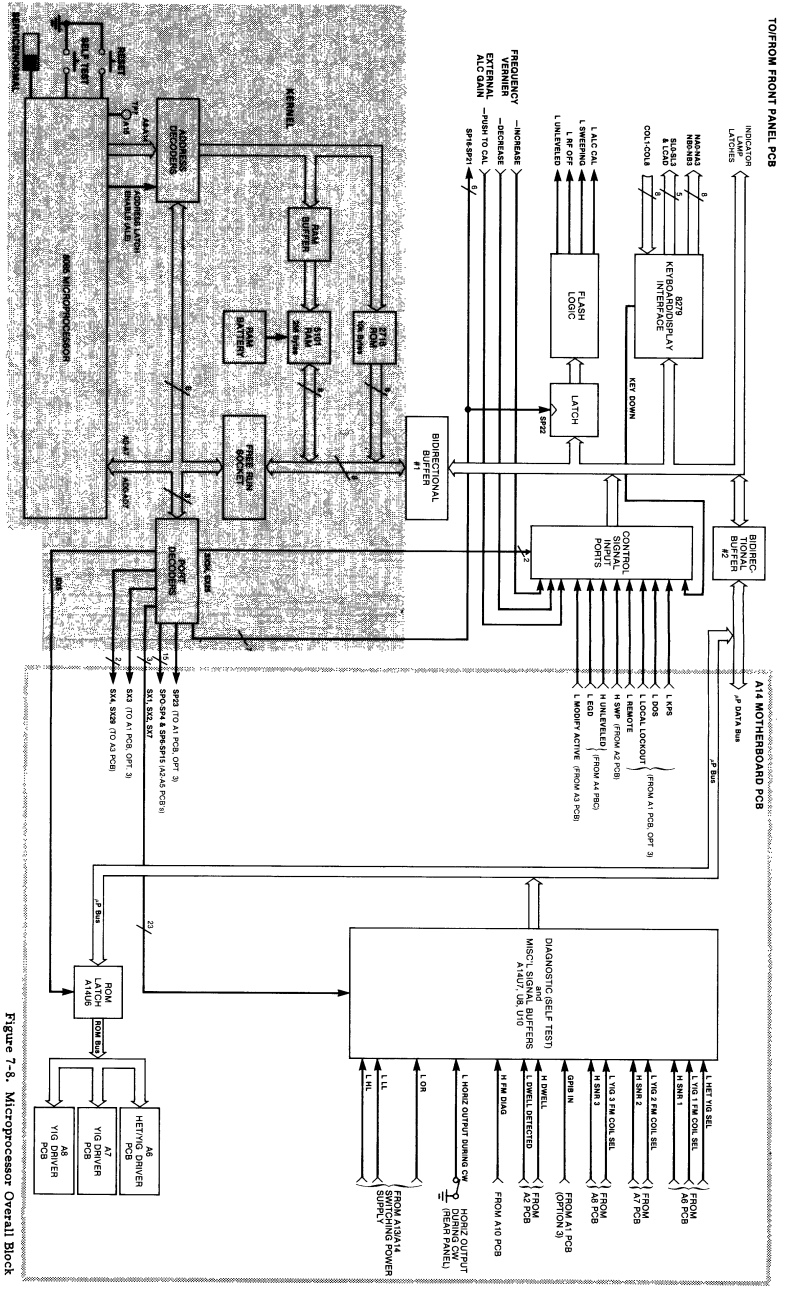
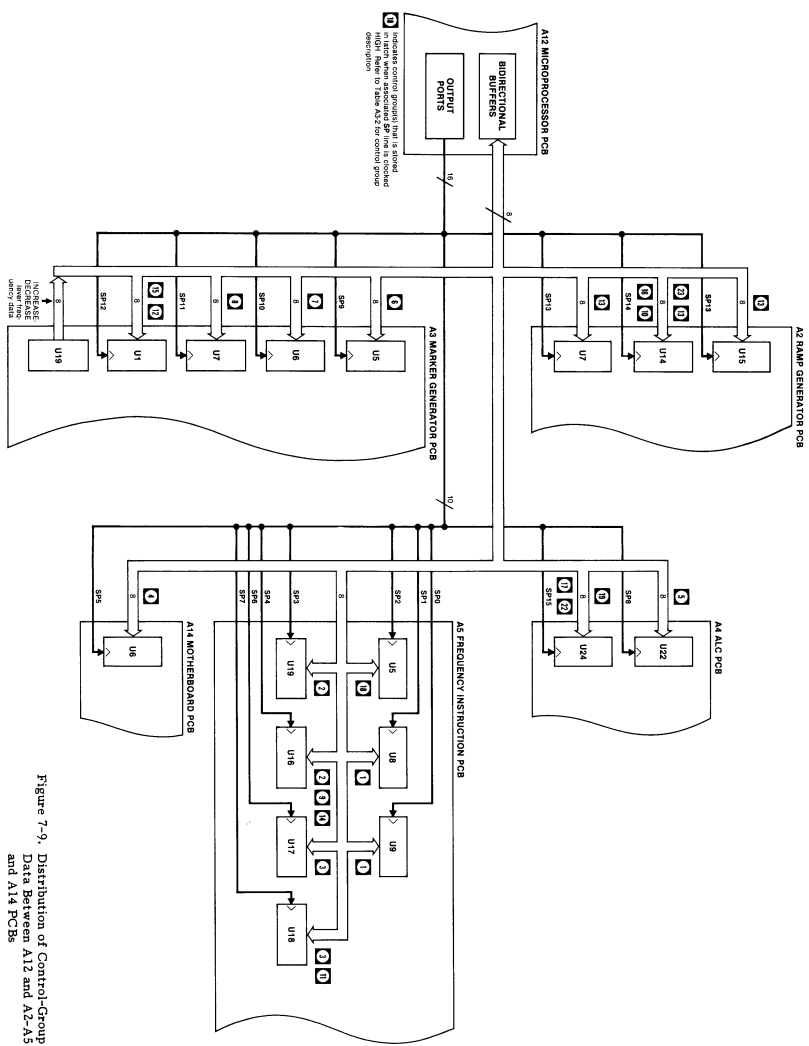
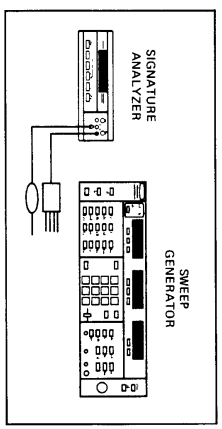

Figure 7-8. Microprocessor Overall Block Diagram
Figure 7-9. Distribution of Control-Group Data Between A12 and A2-A5 and A14 PCBs
Figure 7-13. Test Setup for Troubleshooting A12 PCB
The A12 Microprocessor PCB controls the operation of the sweep generator. It also provides, via the A11 Front Panel PCB, the interface between the front panel push-buttons and the analog sweep- and micro-wave-generating circuitry. To provide this control, the A12 PCB contains an 8085 Microprocessor integrated circuit (IC), an 8279 Keyboard/Display Interface IC, 10k bytes of read-only memory (ROM), and 256 bytes of read/write memory (RAM). A block diagram of the A12 PCB circuitry is provided in Figure 7-8. A diagram showing the distribution of control-group data between the A12 PCB and the A2-A5 and A14 PCBs is provided in Figure 7-9; descriptions of these data are
The 8279 IC (U25) (Figure 7-8) interfaces the microprocessor with the front panel push-buttons and numeric displays. This IC, via its scan lines (the **SL0-SL3&LCAD Bus**), causes the front panel pushbuttons and numeric-display digits to be continually scanned. When the user selects a pushbutton, an 8-bit digitally-coded word (keycode) representing that pushbutton is sent over the **COL1-COL8 Bus** to the keyboard controller (8279), and eventually to the microprocessor. Conversely, when the microprocessor selects a numeric display for update, a likewise-coded word representing the display segment is sent over the **NA0-NA3/NB0-NB3 Bus** to one of the three displays.
U19-U21 decode the microprocessor output-port data and select one of 24 output ports. The selected port then receives the data that the microprocessor has concurrently sent over the data bus. The output-port-select lines are **SP0** thru **SP23**. The **SP0-SP15** lines go to the analog PCB ports, located on the individual A2-A5 and A14 PCBs (Figure 7-9). **SP16-SP21** go to the front-panel non-flashing LED ports, A11U1 thru A11U6. The **SP22** line goes to the front-panel flashing
There is no error code for the A12 Microprocessor PCB. Read-only-memory (ROM) or read/write memory (RAM) malfunctions occurring in the microprocessor kernel (Figure 7-8) will cause the respective ROMs or RAM's error code to be displayed. Other malfunctions occurring within the kernel will probably result in the sweep generator's not turning on. And malfunctions occurring outside the kernel will probably result in the display of one or more analog circuit error codes. The test equipment setup for troubleshooting the A12 PCB is provided in Figure 7-13; the troubleshooting flowchart is provided in Figure 7-15.